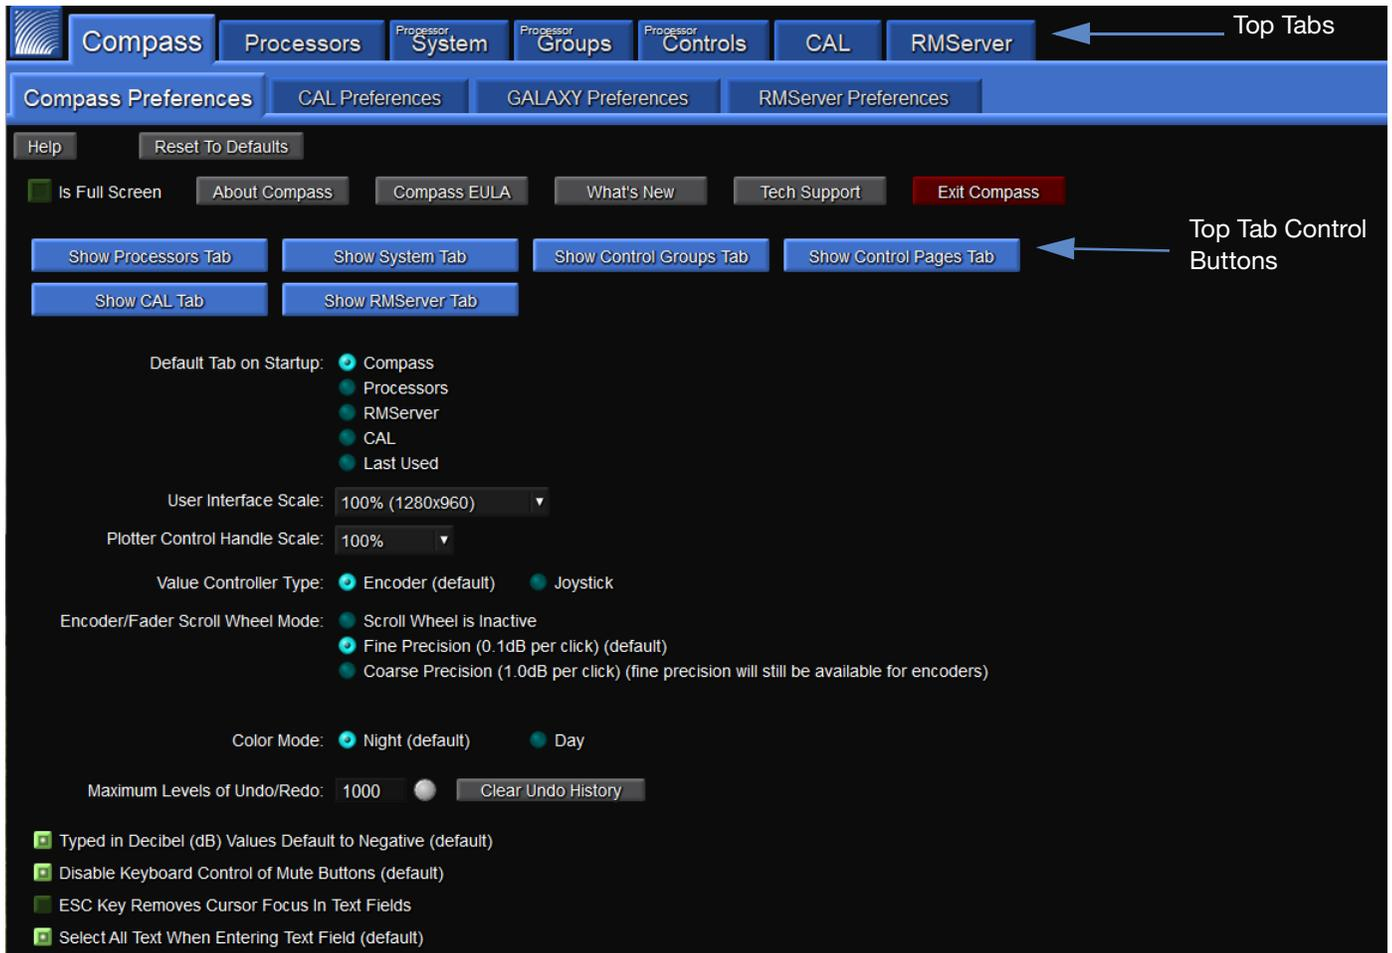

Figure 11: Compass Default Landing GUI
5. Start the Compass application on the computer. The default user interface for Compass is shown in Figure 11.
The Compass Control Software allows users to set a wide variety of preferences, effectively customizing the interface to suit the needs of a particular application. If none of the Show Tab Controls (see Figure 11) are selected, the Compass control window will only show the Preference setting tabs.